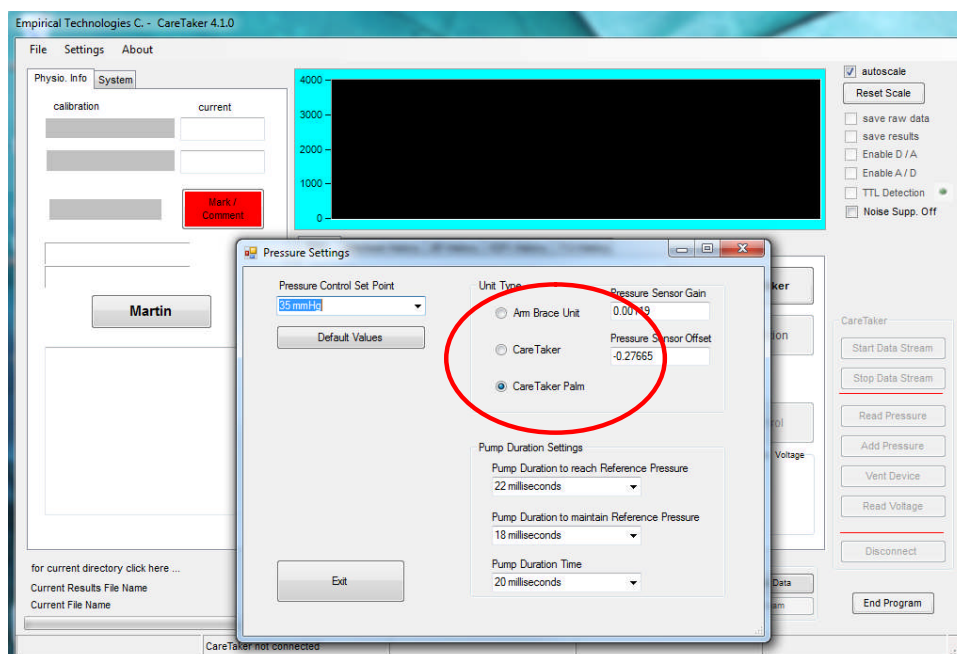

Figure 20 Pressure Control Settings menu
- Prior to the first time the calibration routine is used please verify that the coupling pressure set point (Pressure Set Point), which is the coupling pressure the CareTaker unit will establish in the finger cuff subsequent to the calibration, is set to 40 mmHg. Please refer to section 15.3, Figure 20.
Once the OK button is clicked, the device's valve will open, followed by a sequence of pump bursts to get the coupling pressure of the device to its preset value, usually around 40 mmHg (this is adjustable under Settings – Pressure Settings – Pressure Set Point (lowest drop down menu, see **Figure 20**)).
Click on “Settings” in the top menu, then click “Pressure Settings”, whereupon the sub-screen shown in **Figure 20** will open. Choose an appropriate pressure from the top drop-down menu labeled “Maximum Sweep Pressure”. Click OK to exit the panel.